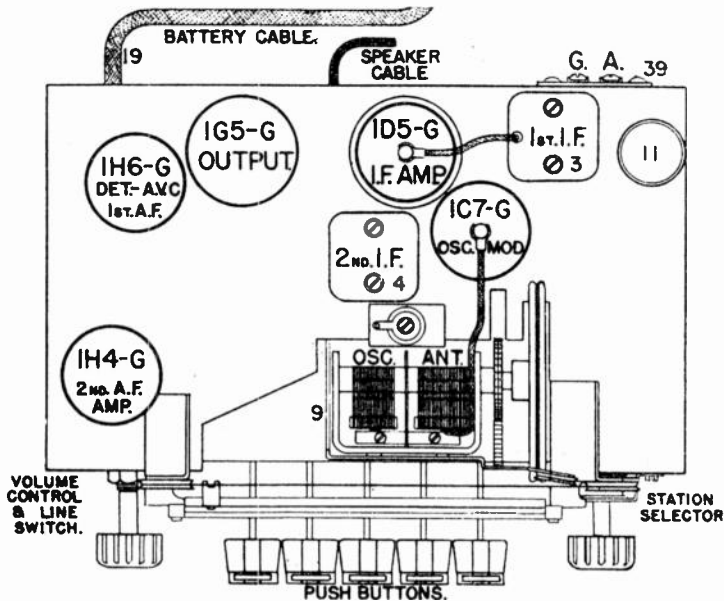

Fig. 2—Top View Model 548
- Set the station selector so that the tuning condenser plates are completely out of mesh. Turn the volume control knob to the right (ON).
- Adjust both trimmers located on top of the 2nd I-F transformer for maximum output. Fig. 2.